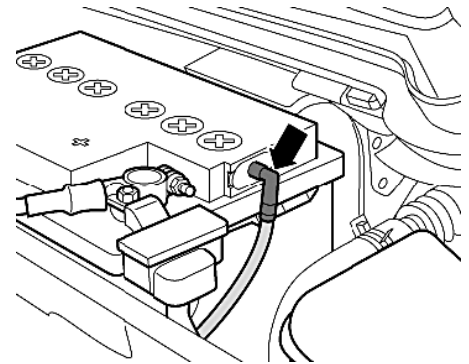

Fig. 3 Central vent removal
9. Disconnect angled connector of central gas venting system (arrow), **Fig. 3**.